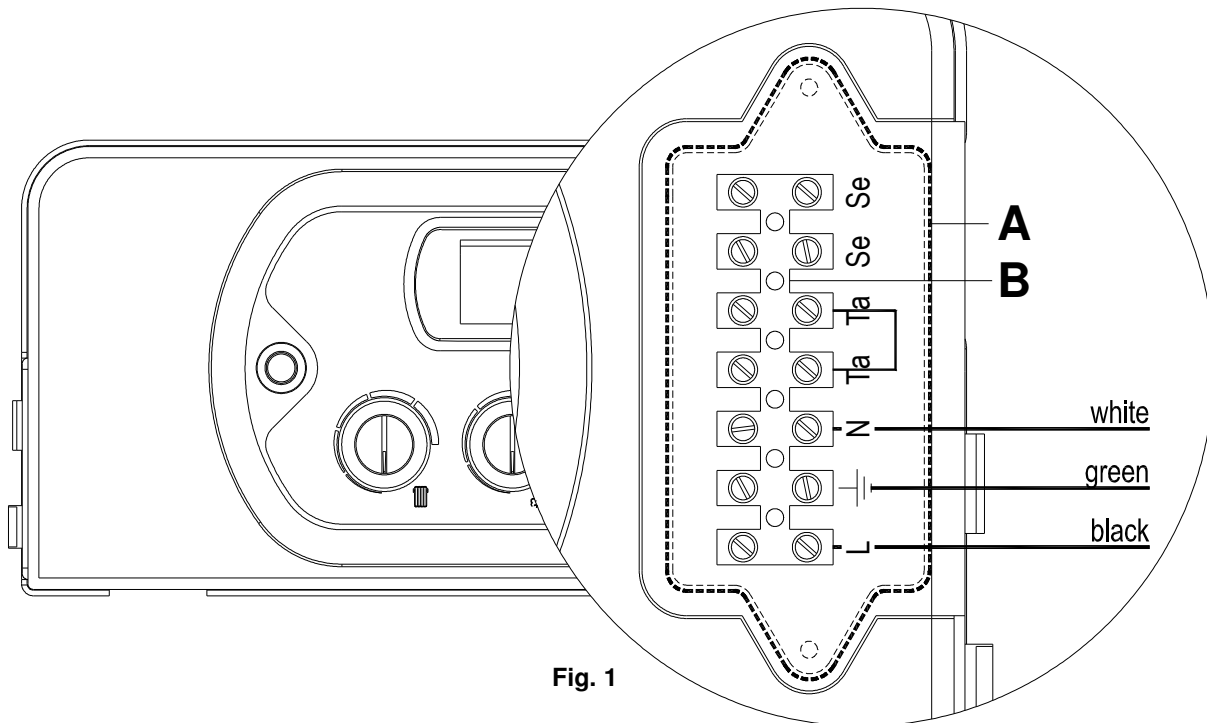

Fig. 1
- c. Slacken the screws and remove plate A (see fig. 1).